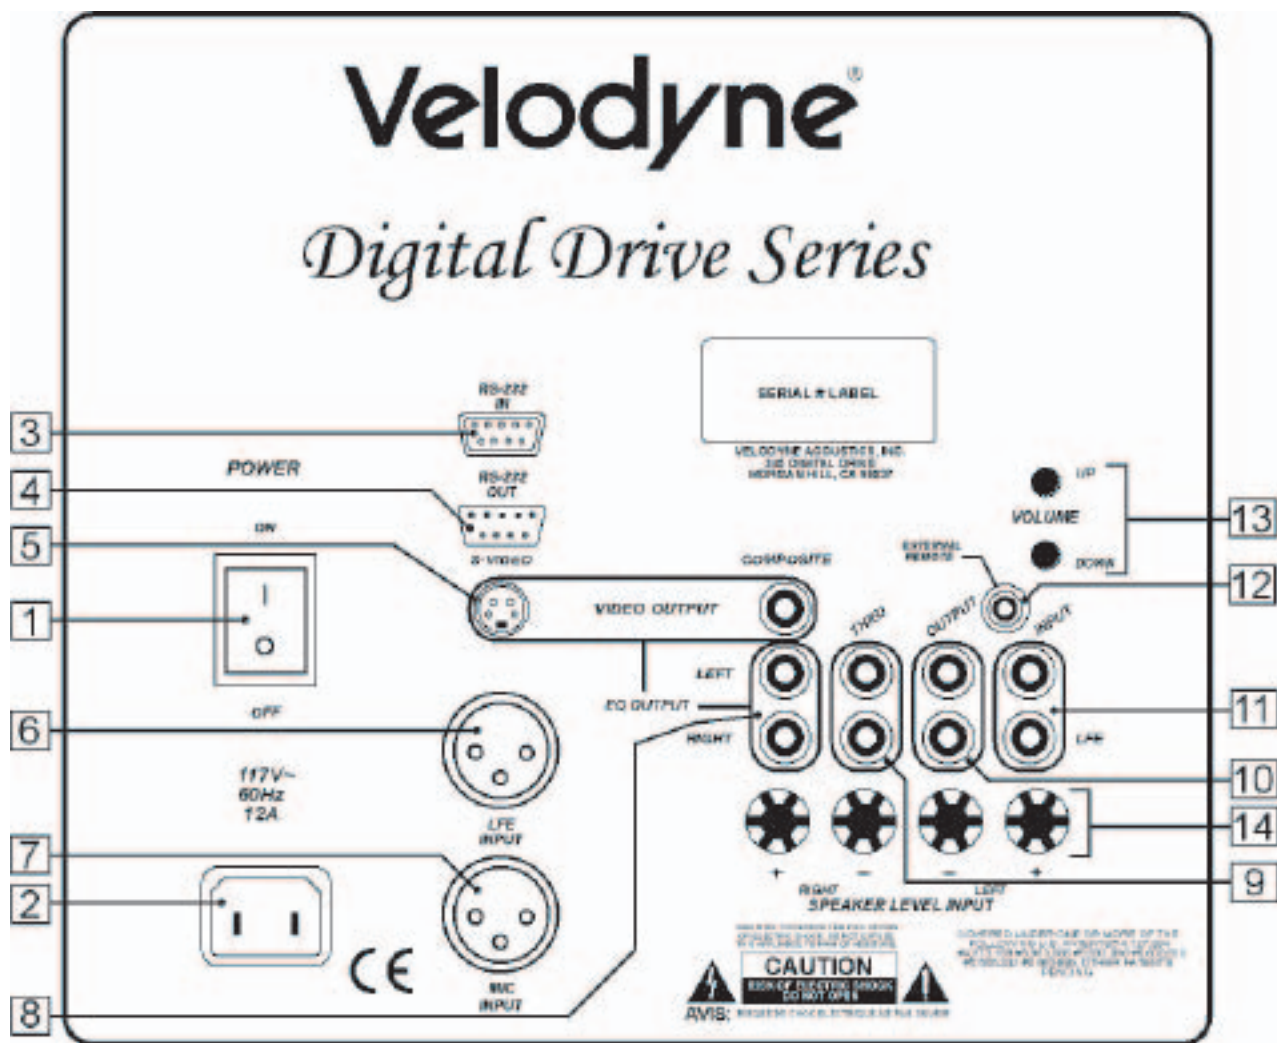

Figure 2: Digital Drive Rear Panel Connections
The Velodyne Digital Drive subwoofer is set up, configured, and adjusted by the controls, inputs, and connections located on the rear panel of the unit. Figure 2 shows the location of each of these important operational interfaces. Brief descriptions of each interface follow.
- a. LFE INPUT (RCA, the RED jack at location 11 on Figure 2) – This is the most common input cable connection. Make a connection between this input and the LFE output or the subwoofer output of your receiver or processor; OR
- b. LFE INPUT (XLR, location 6 on Figure 2) – Make a connection between this input and the balanced LFE outputs of your receiver or processor; OR
- c. INPUT, LEFT and RIGHT (location 11 on Figure 2) – Make a connection between these inputs and the stereo outputs of your receiver or processor; OR
- d. SPEAKER-LEVEL INPUT (location 14 on Figure 2) – Make a connection between these inputs and the left and right speaker connections on your receiver or processor. Make this connection by either inserting speaker wire into the correct binding post terminals or by removing the banana plug jack caps and inserting banana plug wire into the jacks.
- Referring to Figure 2, Locations 5 and 8, connect the audio/video cable between your subwoofer (EQ OUTPUT VIDEO/LEFT/RIGHT yellow, white, and red respectively) and your electronics (receiver, processor, TV, etc.). Insert the color-coded cable plugs into the correct EQ OUTPUT receptacle – the yellow plug into the VIDEO jack, the white plug into the LEFT jack, and the red plug into the RIGHT jack. The opposite ends of this cable should be connected to your receiver/processor. The yellow VIDEO cable goes to an available composite video input (e.g. aux), and the white/red AUDIO (L&R) cables go to a corresponding audio input. Consult your receiver/processor and/or TV owner's manual for more information.
- Insert the XLR microphone cable's 3-pin male plug into the MIC INPUT jack (location 7 on Figure 2) on the back panel of the subwoofer. For DD-15 and DD-18 units, a microphone jack is also located on the front of the unit for convenience.